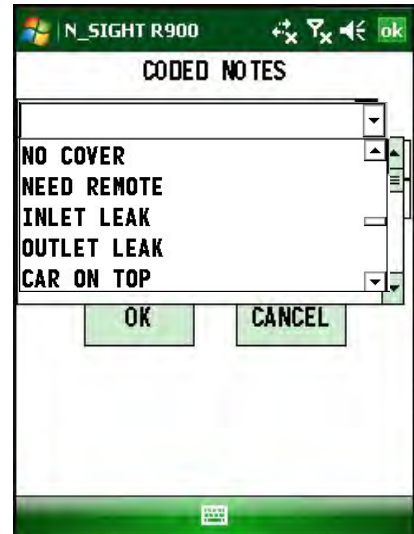

Figure 6.7 Drop-down Selection List of Coded Notes
2. Touch the DOWN  arrow to view the list of codes, as illustrated in Figure 6.7.